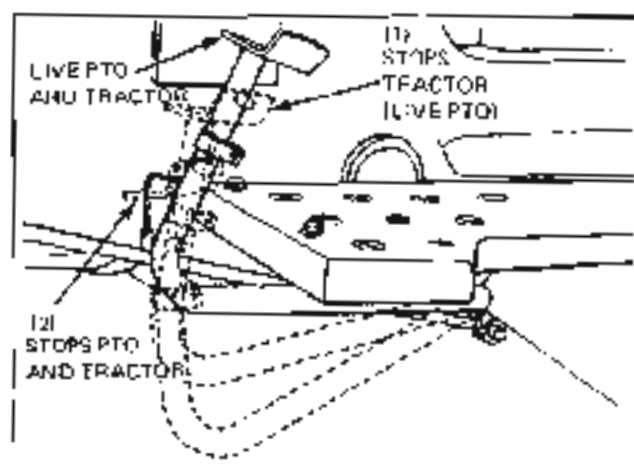

Figure 11 — Dual Clutch
A dual clutch is available which allows stopping tractor movement while the PTO shaft continues rotation. When the clutch pedal is depressed to position (1), Figure 11; the tractor movement stops while the PTO shaft continues rotation (if the PTO is engaged). If the pedal is depressed completely (2), both tractor and PTO motion stop.